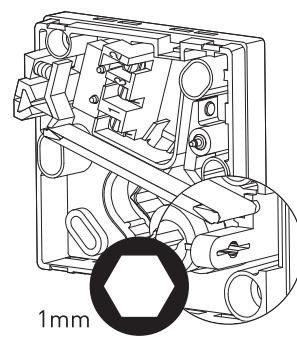

FIGURE 15: Calibration screw
4. Use an allen key (1mm) to adjust the humidistat on in the inside and turn the screw from high to low value until the humidistat triggers. "FIGURE 15: Calibration screw".